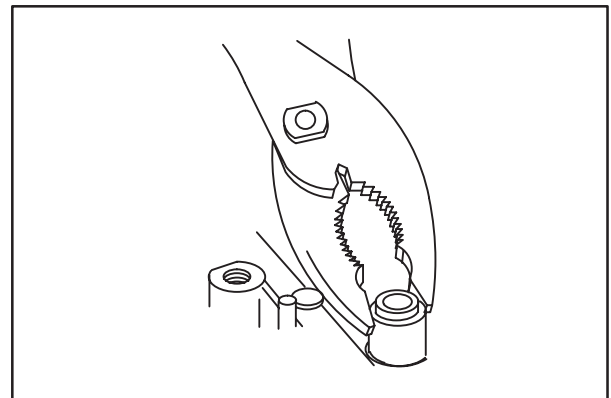

Fig. 8
- Remove and discard valve stem seals, Fig. 8.